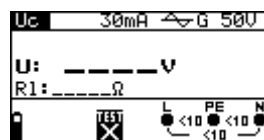

Figure 5.12: Contact voltage measurement menu
**Step 4** Connect test cable to the item under test. Follow the connection diagram shown in figures 5.12 and 5.13 to perform **LowW resistance** measurement.